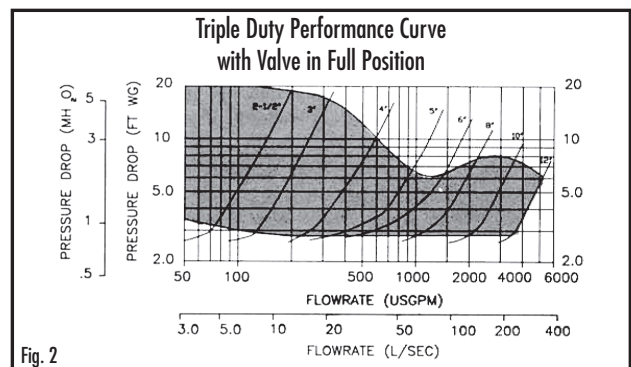

Fig. 2
6.2.3 Refer to Triple Duty Performance Curves with valve in full open position (Fig 2).
6.3.4 On the Triple Duty Performance Curve (Fig. 2) locate the differential pressure obtained in Step 6.3.2 and project line horizontally across to intercept with Valve Performance Curve. Drop a line vertically down to read the flow rate at the bottom of the chart.
3.1 Position the two halves of Aurora Flange Adapter on the valve body (Fig. 1) ensuring that the lugs on each half of the flange adapters are located between the anti-rotation lugs on the valve body. Insert two bolts of specified size (Table 1) to secure the halves of the flange adapter to the valve body (Fig. 2). The gasket cavity should face out to the adjoining flange.